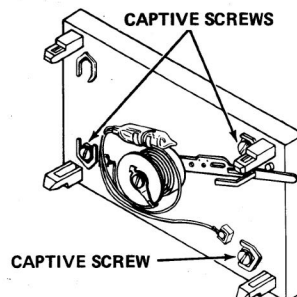

Fig. 10
3. If your old thermostat has a wall mounting plate, remove the thermostat by unscrewing it. (Fig. 10) If the wiring is direct to the thermostat, go to the next step.